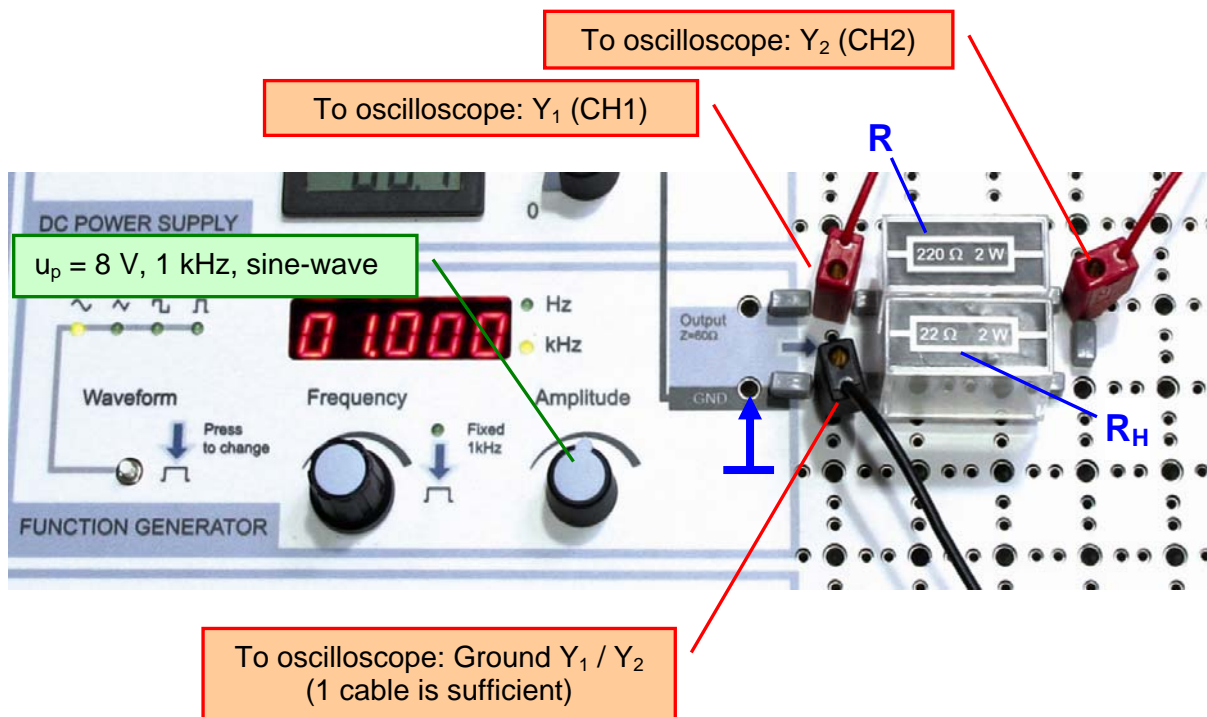

Fig. 11.3.1: Assembly and measurements, Active power, on the Electronic Circuits Board
- Assemble the circuit in Fig. 11.2.1 on the Electronic Circuits Board. Connect the outputs of the circuit to the channel inputs of the oscilloscope (assembly and measurement details are in Fig. 11.3.1).